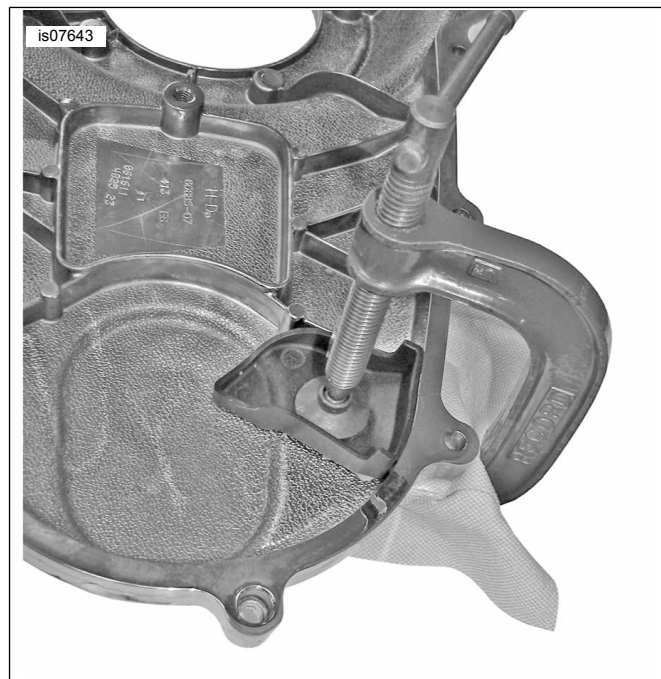

Figure 4. Clamp Components Together
7. See Figure 4. Protect the outside surface of the primary cover to avoid damage. Secure the oil deflector in place using a C-clamp. Allow approximately 30 minutes before handling.